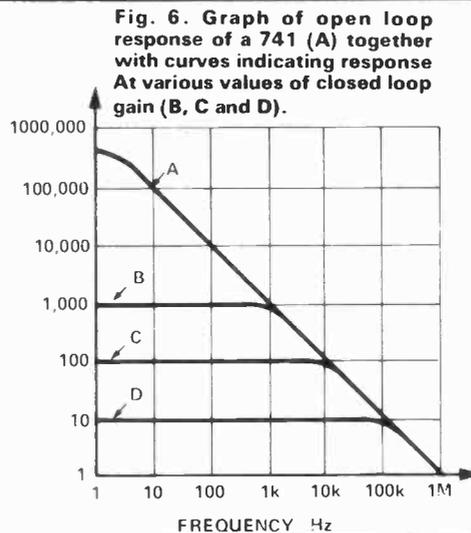

Fig. 6. Graph of open loop response of a 741 (A) together with curves indicating response at various values of closed loop gain (B, C and D).
For example, if you want the amplifier to have a gain of 100, then the maximum frequency at which this gain can be obtained is 10 kHz. Fig. 6 illustrates this phenomenon. Curve A is the open loop response, note that the voltage gain is 1 at 1 MHz, hence the gain bandwidth product of 1 MHz. The slope of the curve is -20 dB/decade , which is caused by a single 30pF capacitor inside the IC. Now, if the resistor ratio is set to give a voltage gain of 100, then the op-amp gives a frequency response shown by curve C, which is flat up until 10 kHz. A gain of 10 rolls off at 100 kHz (D) and a gain of 1 000 rolls off at 1 kHz (B). Thus it is very easy to see just what the closed loop frequency response will be. However, don't forget the slew rate problem. You may be able to construct an amplifier with a voltage gain of 10, which works up to 100 kHz, but the output voltage will be limited to less than 3 V pp! Another problem is distortion in the op-amp. Negative feedback is used to iron out any distortion generated by the op-amp, but negative feedback relies on there being some spare voltage gain available. For instance, say the op-amp generates 10% distortion and there is a surplus voltage